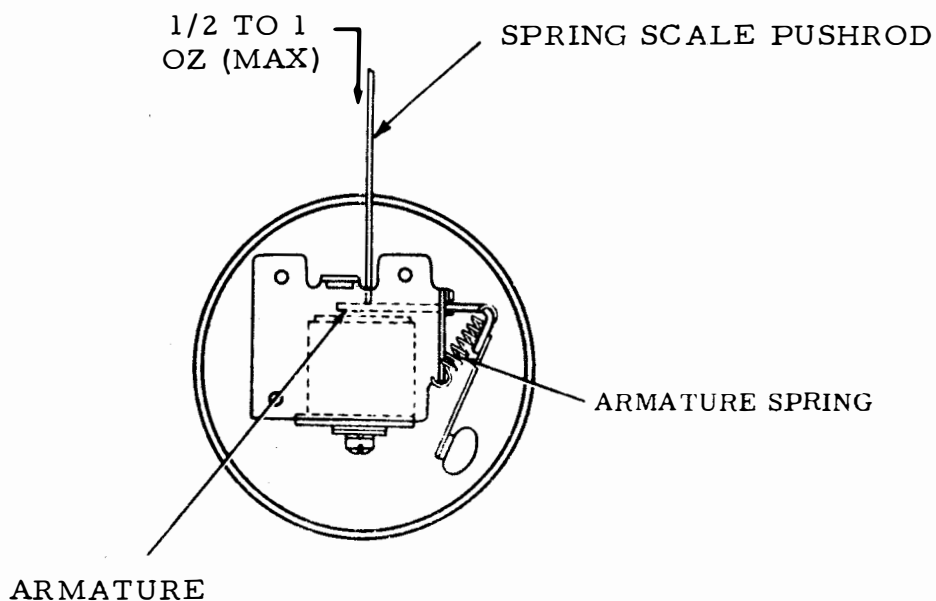

Figure 6-363. Electrical Service Unit Armature Spring Tension
(1) Armature Spring Tension. Adjust as follows:
- (a) Refer to Figure 6-363.